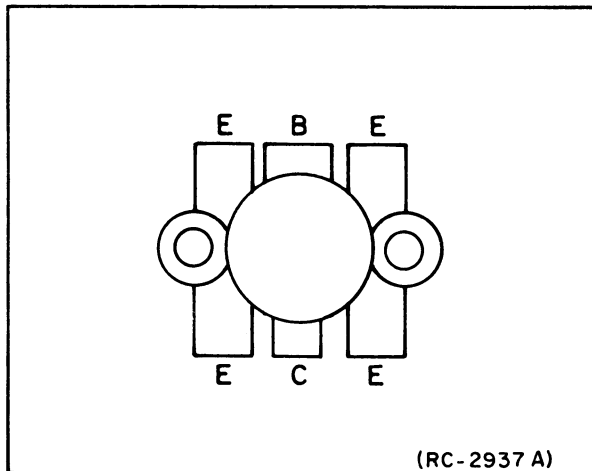

Figure 3 - Q203, Q204, and Q4201-Q4204
- (1) Trim the new transistor leads (if required) to the lead length of the removed transistor. Cut the collector lead of Q202 at a 45° angle for future identification (see Figure 2). The collector lead of Q203, Q204, and Q4201 through Q4204 is identified by the smaller center lead (see Figure 3). The letter "C" on top of each transistor also identifies the collector.
- (2) Apply a coat of silicon grease around the transistor mounting surface Q202, Q203, Q204, and Q4201-Q4204. Be sure the copper spacer for Q202 is properly aligned on the heat sink and place the transistor in the mounting hole. Align the leads as shown on the PA Assembly Outline Diagram. Then hold the body of the transistor and replace the hold-down nut and spring-washer (Q202) or the two retaining screws Q203, Q204, and Q4201-Q4204 using moderate torque, 8 inch-pounds for Q202 or 6 inch-pounds for Q203, Q204, & Q4201-Q4204. A torque wrench must be used for this adjustment since transistor damage can result if too little or too much torque is used.
- (3) Solder the leads to the printed circuit pattern. Start at the inner edge of mounting hole and solder the remaining length of transistor lead to the board. Do not use excessive heat which causes the printed wire runs to lift up from the board. Check for shorts and solder bridges with an ohmmeter before applying power.